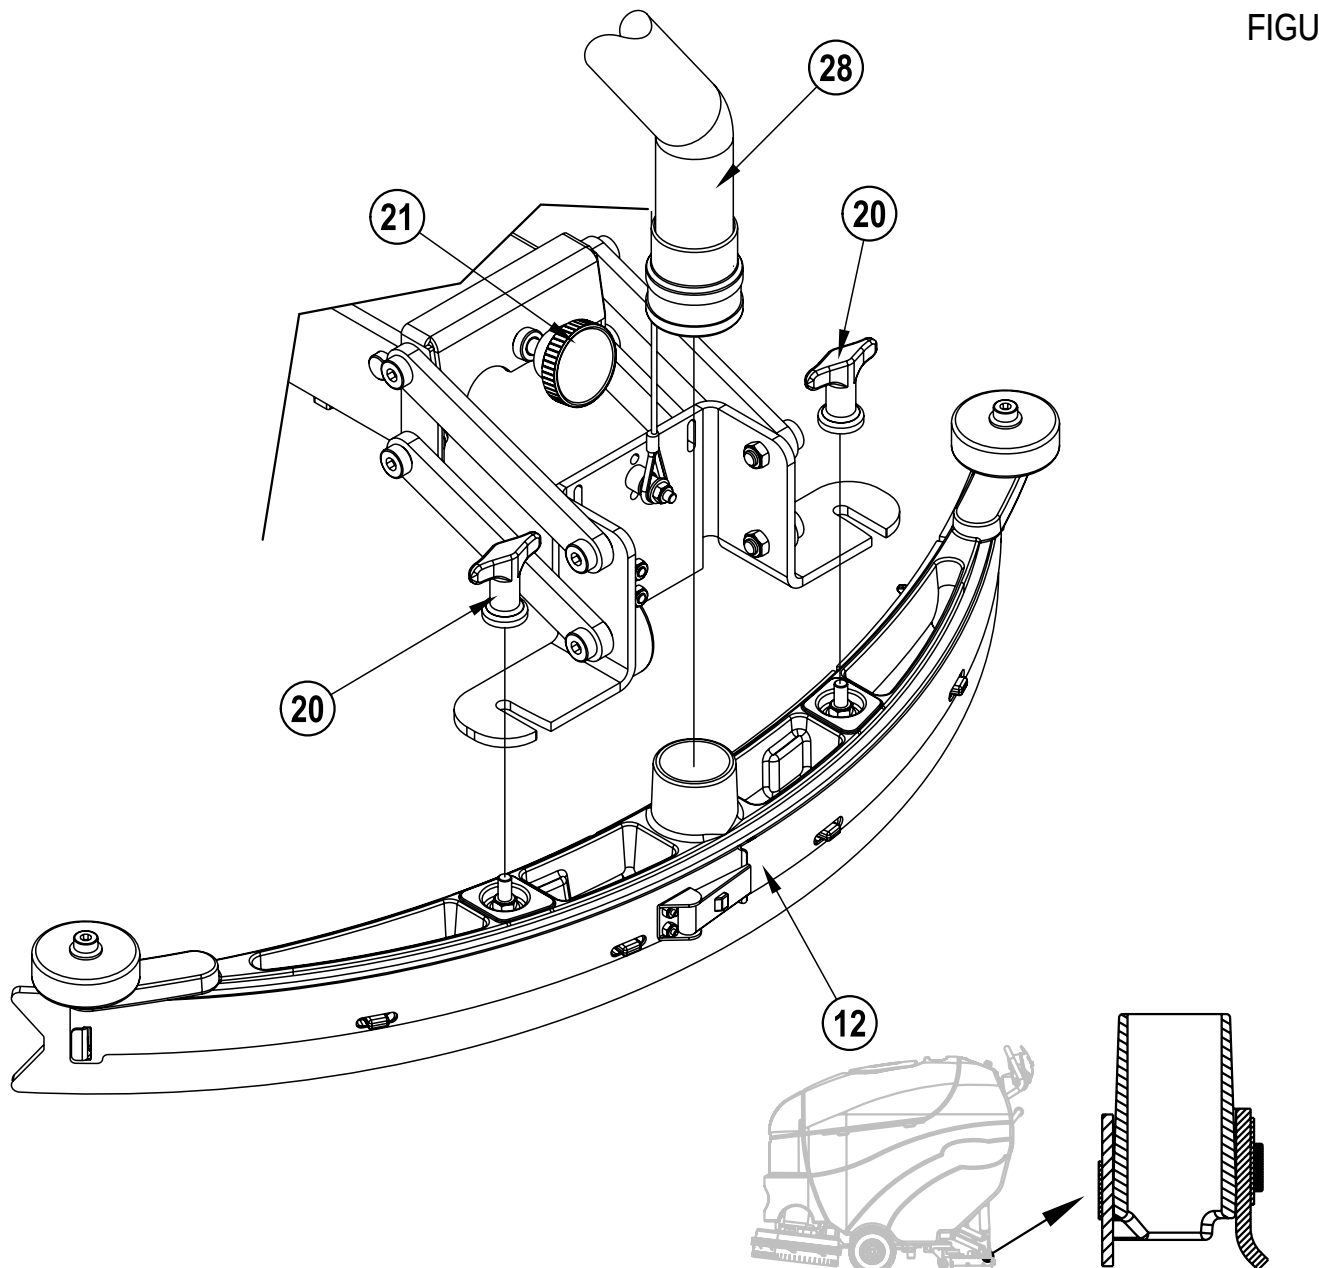

FIGURE 4
- 1 See Figure 4. Slide the Squeegee Assembly (12) onto the squeegee mount bracket and tighten the Squeegee Mount Thumb Nuts (20).
- 2 Connect the Recovery Hose (28) to the squeegee inlet.
- 3 Lower the squeegee, move the machine ahead slightly and adjust the squeegee tilt using the Squeegee Adjustment Knob (21) so that the rear squeegee blade touches the floor evenly across its entire width and is bent over slightly as shown.